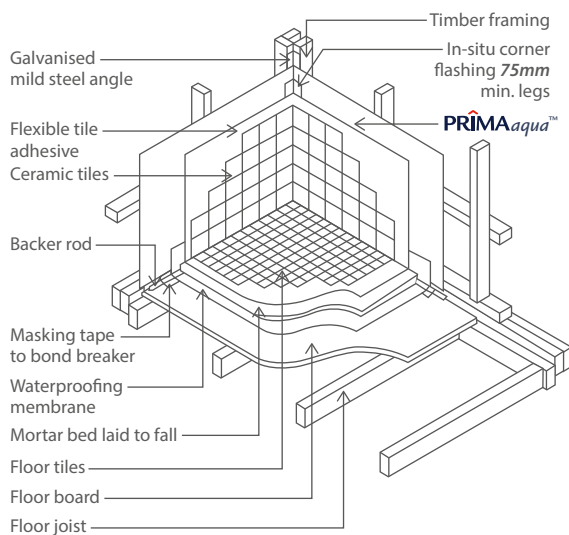
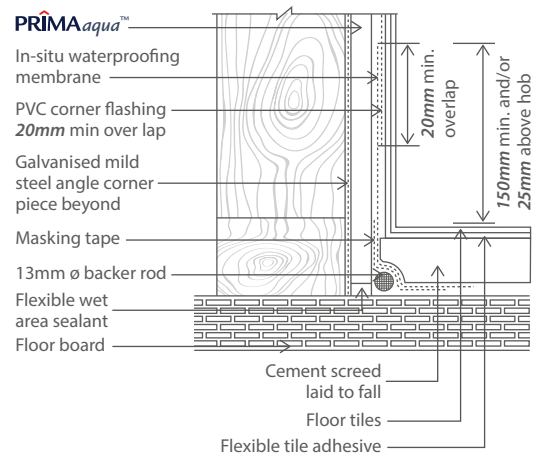

Figure 19: Cast In-situ Internal Membrane
Figure 20: Detail of Cross-section at Wall-to-Floor
Cast In-situ Internal Membrane System must be constructed as follows: Refer to Figure 19 and Figure 20.
6. Apply the waterproofing membrane to the floor and PRIMA^{aqua}™ wall. Waterproofing on PRIMA^{aqua}™ must extend a minimum of 150mm above the finished bathroom floor level or 25mm above the highest possible water level. Refer to Figure 19 and 20. In all cases, refer to membrane manufacturer for details.